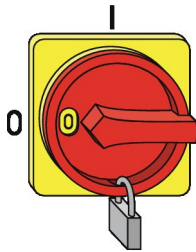

Fig. 10: Securing the main switch
2. ▶ Secure the main switch with a padlock (Fig. 10).